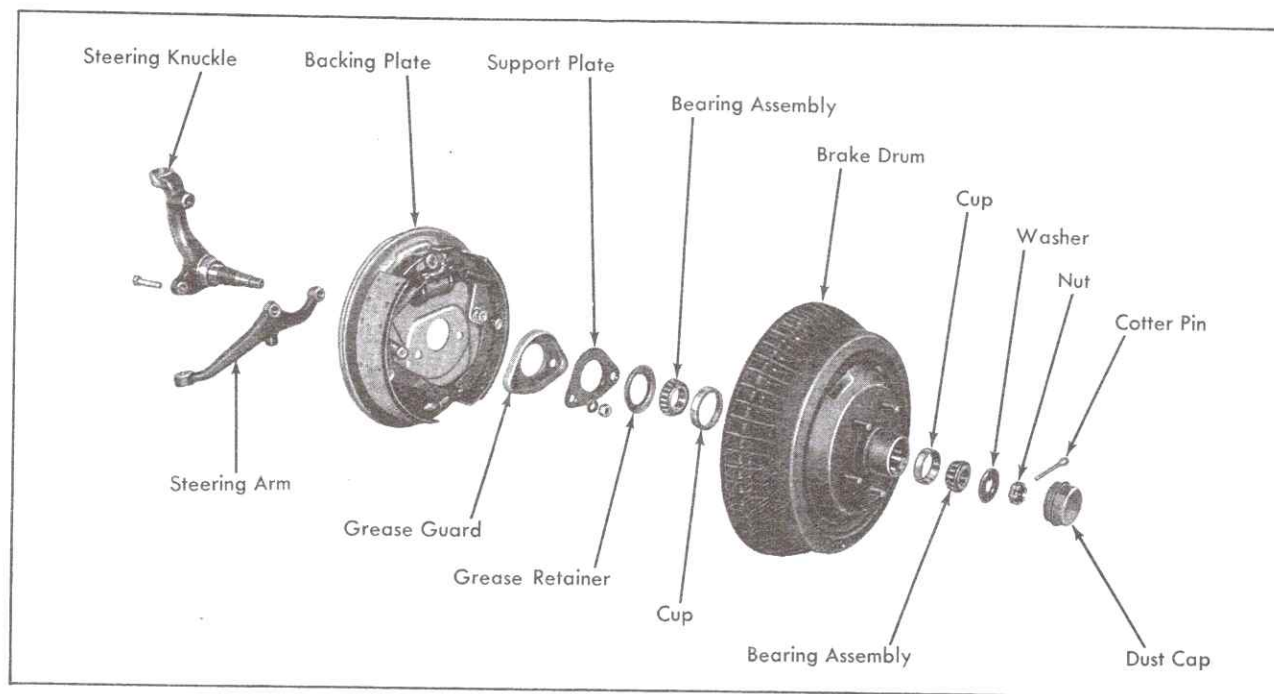

Fig. 10-12 Front Wheel Disassembled
Tapered roller bearings are used in the front wheels, Fig. 10-12. With this design, the cone is integral with the roller assembly.
4. Remove dust cap, cotter pin, spindle nut, washer, and outer cone and roller assembly, Fig. 10-12.